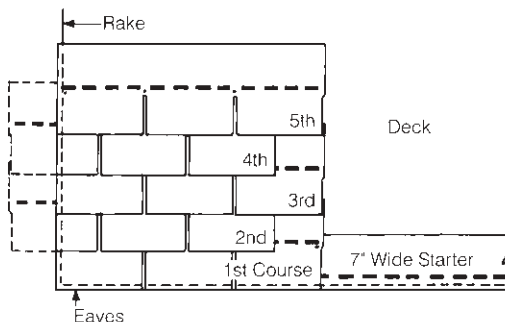

Figure 12-12: Vertical Racking Method.
**1ST COURSE:** Apply a full shingle at the lower left corner of the roof, tabs flush with the starter course (Figure 12-12).
**2ND COURSE:** Cut 6" off the left end of a shingle and apply the 30" piece over the first-course shingle, flush with the left edge and exposing the first course 5" (Figure 12-12).